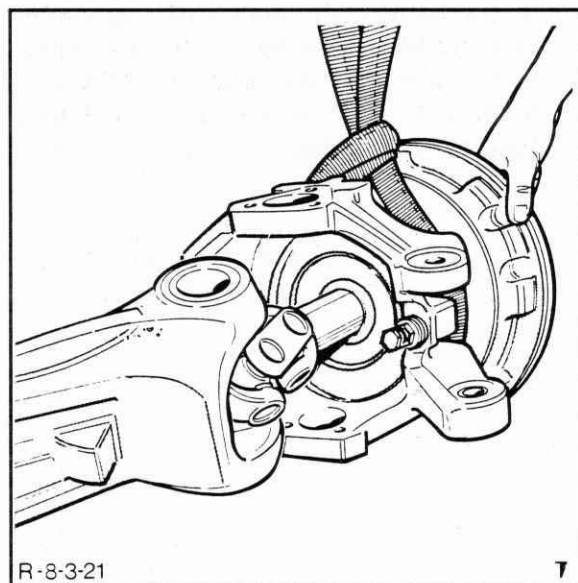

Figure 7-86
5. Carefully ease the hub and swivel assembly from the axle center casing, Figure 7-86. Do not allow the axle shaft to be pulled from the center casing. As the hub and swivel casing assembly is moved away from the center casing, support the short outer end of the axle shaft as it passes through the seal.